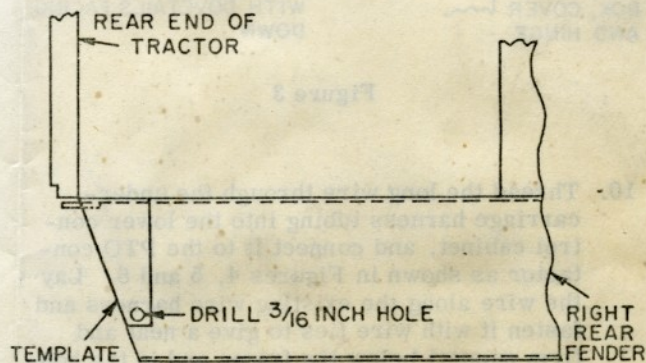

Figure 1
4. Using the template provided, locate and drill a 3/16-inch hole in the right fender as shown in Figure 1.